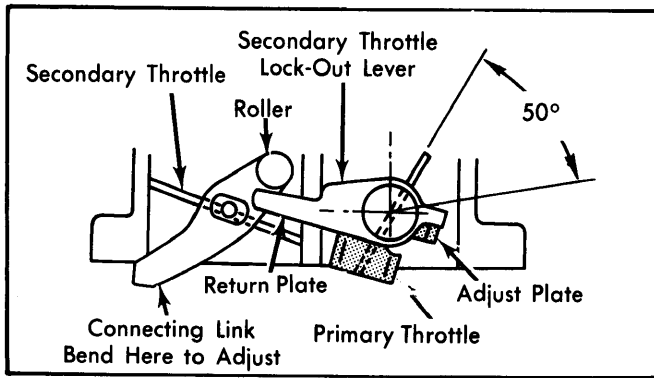

Fig. 4 Secondary Throttle Initial Opening Adjustment
2) Open primary throttle valve until it is observed that secondary is just beginning to open. Hold throttle in this position and measure clearance between primary throttle valve and throttle bore. Adjust clearance to .271-.310" (6.88-7.88 mm) by bending connecting link. See Fig. 4.